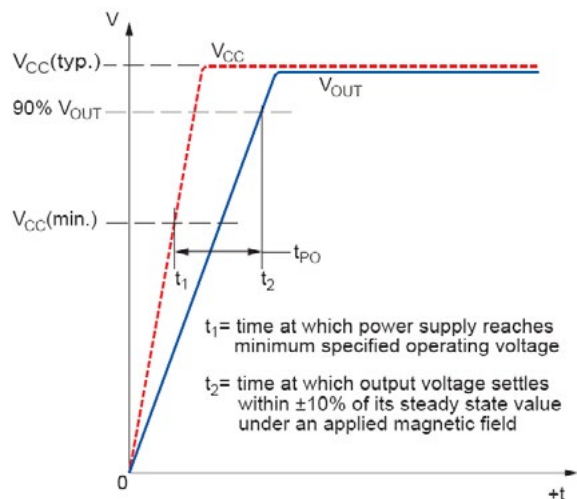

Figure 38: Power-On Time ( $t_{PO}$ )
**Power-On Time ( $t_{PO}$ ).** When the supply is ramped to its operating voltage, the device requires a finite time to power its internal components before responding to an input magnetic field. Power-on time,  $t_{PO}$ , is defined as the time it takes for the output voltage to settle within  $\pm 10\%$  of its steady-state value under an applied magnetic field, after the power supply has reached its minimum specified operating voltage,  $V_{CC(min)}$ , as shown in Figure 38.